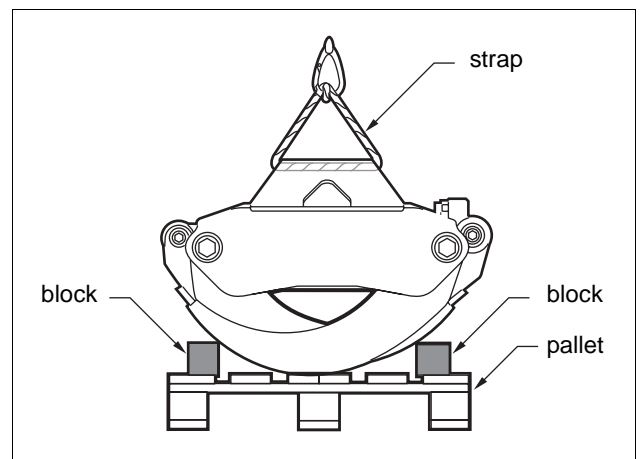

Fig. 22 Arrangement of the grapple at transportation or service
Note! Nail blocks to the pallet base to prevent the grapple from falling during transportation or service. Tie a strap around the stand for safe lifting. See Fig. 22.
1. Place the grapple on a firm base. See Fig. 22.